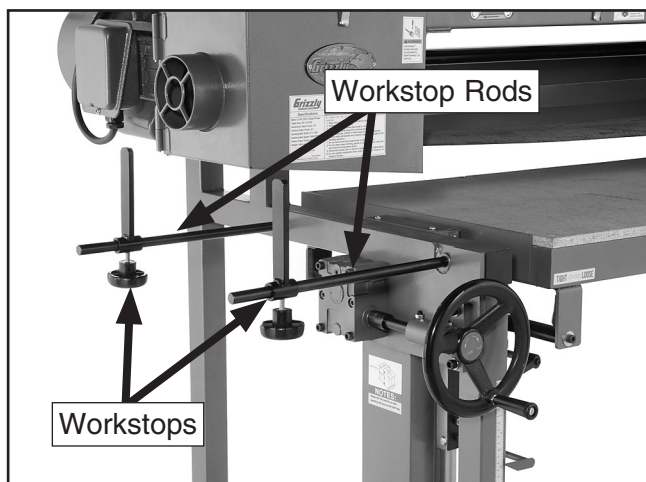

Figure 40. Auxiliary workstops.
1. Loosen the workstop knobs, rotate the workstops so the knob is facing down, then position the workstops in the location needed to properly support the workpiece (**Figure 40**).